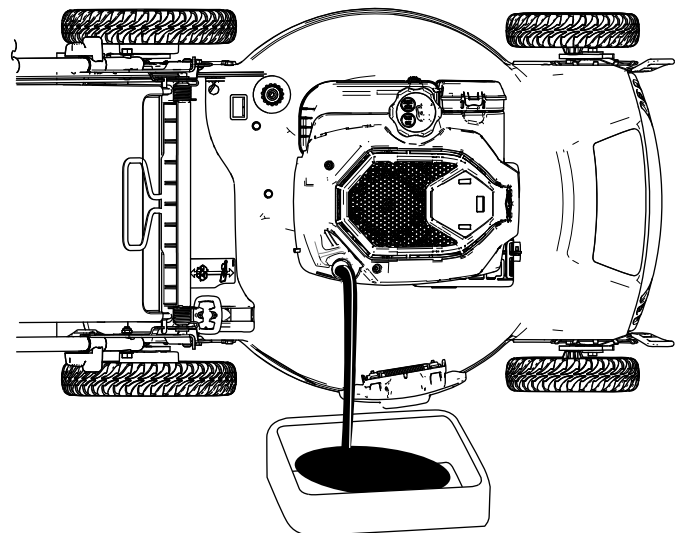
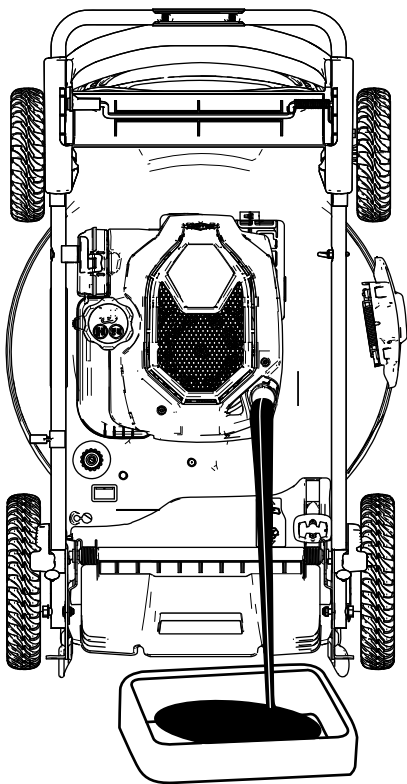

Figure 27
Figure 28
4. Tip the machine onto its side (so that the air filter is up) to drain the used oil from the oil-fill tube (Figure 27) or set the machine in the vertical-stow position (Figure 28).